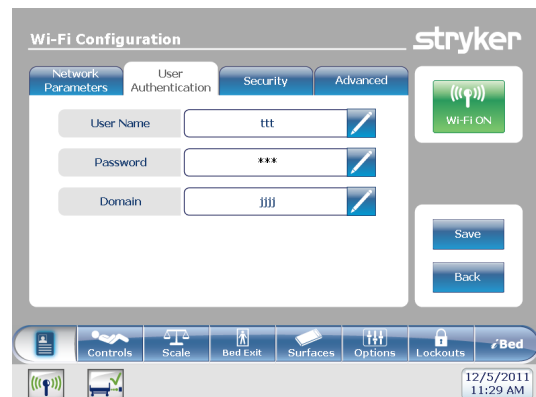

Figure 31: User Authentication
4. To configure the network logon information, tap on the **User Authentication** tab (Figure 31).